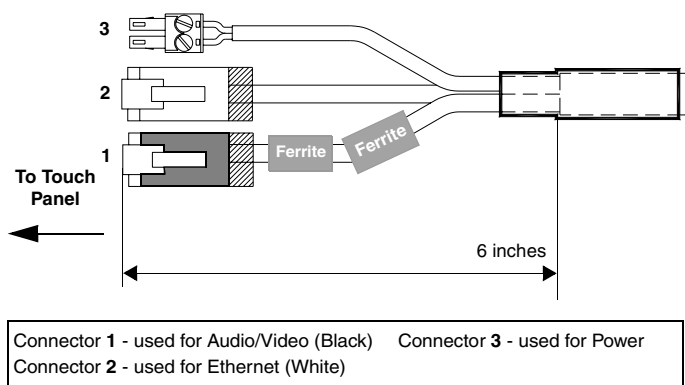

FIG. 6 Ferrite connector location on Audio/Video RJ-45 cable
2. Grasp the Black RJ-45 Audio/Video cable being connected to the panel. This end of the cable is longer than the opposing end which connects to the breakout box (6 inches vs 3 inches). Refer to FIG. 6 for more detailed information.